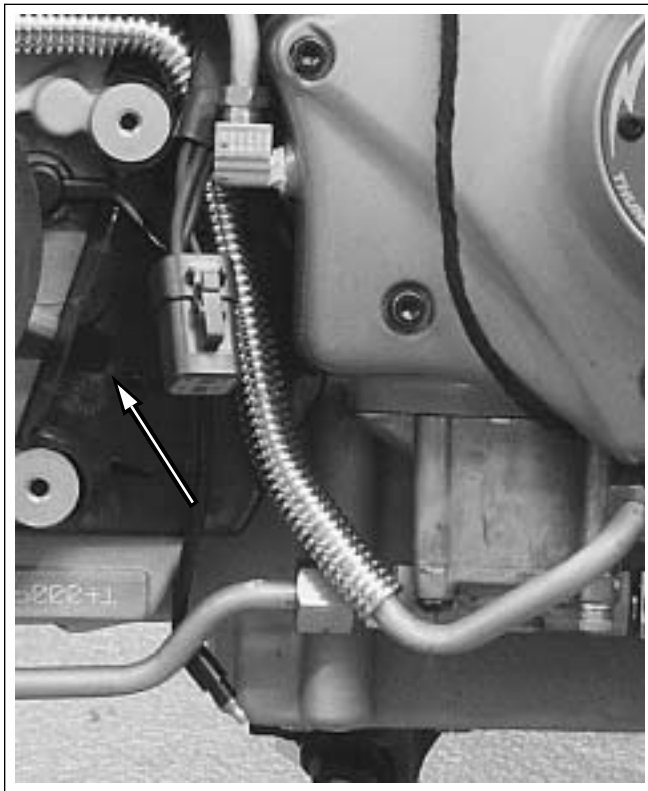

Figure 3-30. Wire Guard
- See Figure 3-30. Wire guard located under the sprocket cover.